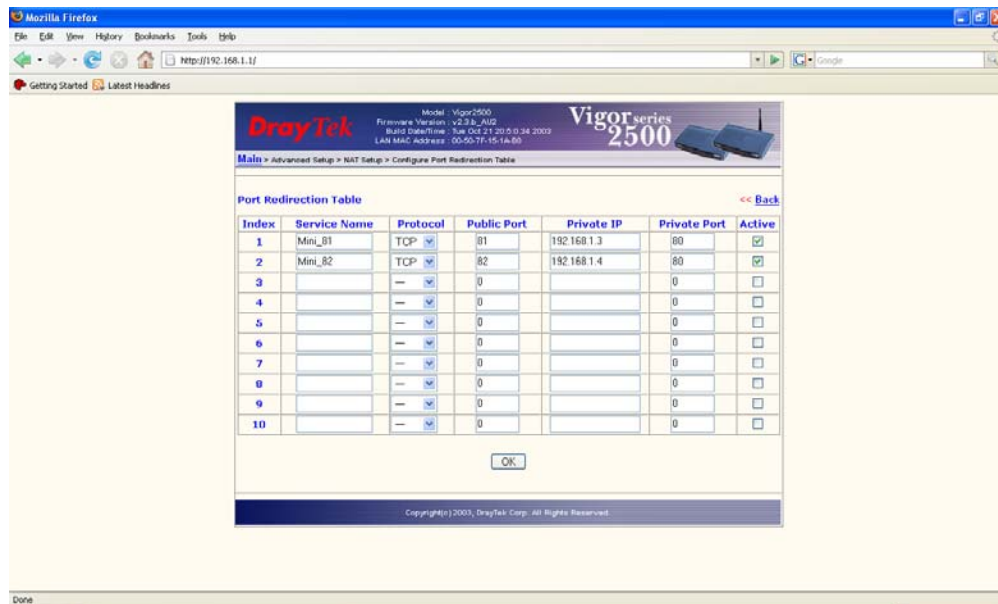

Figure 40: Port Redirection Example
- While some network configurations may allow the use of two IP Addresses, other simple network configurations such as xDSL may not. To allow connection via simple xDSL services for example, the Port Redirection feature of the xDSL Router (connected to the Presidium Mini) can be used. This will cause two public ports to be redirected to the private Port 80 utilised for both addresses. Refer to Figure 40 for an example using a DrayTek xDSL Router of redirecting two public ports (in this example Port 81 and Port 82) to Port 80.